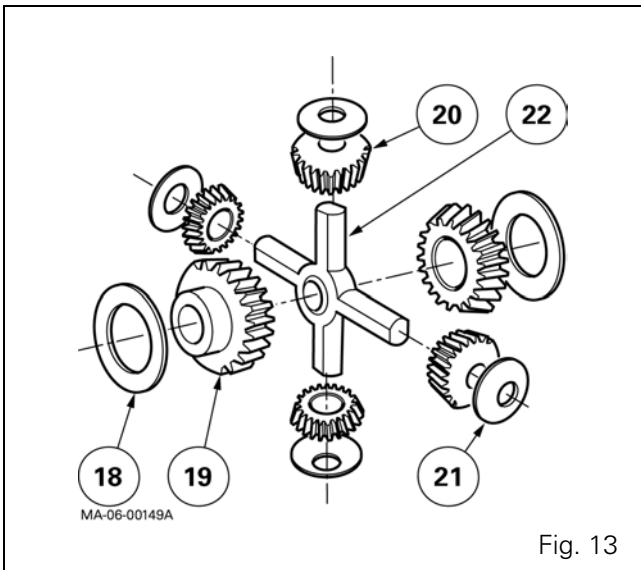

Fig. 13
44. Remove washers (18), sun gears (19), pinion gears (20), washers (21) and spider (22) (Fig. 13).